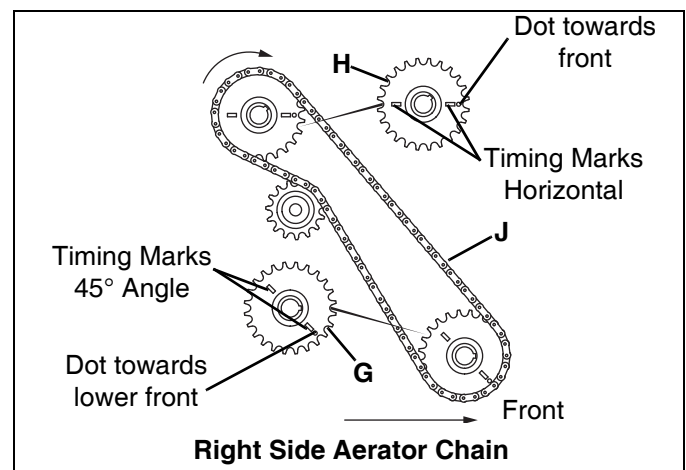
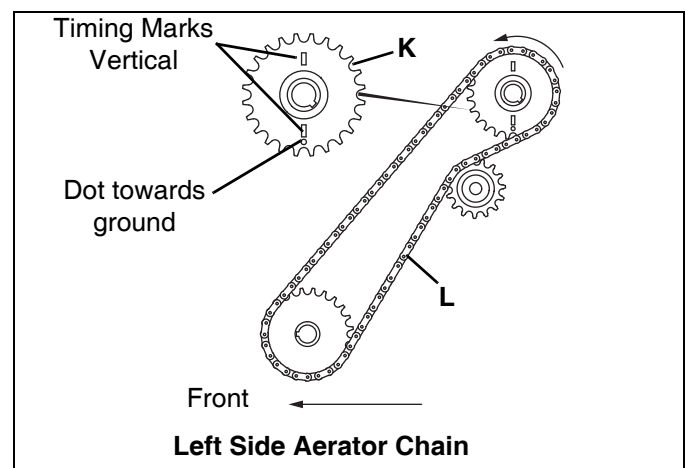

Figure 6D
Figure 6E
4. Rotate right camshaft sprocket (G) until the keyway is pointing towards the front of the unit. Timing marks should be at a 45° angle with dot towards the lower front. [See Figure 6D]
5. Rotate right side crankshaft sprocket (H) until the timing marks are horizontal with the dot towards the front. Keyway should be at a 45° angle.
6. Install right side aerator chain (J). Crankshaft sprocket may be rotated up to 5° in a *clockwise direction only* to properly mesh with the chain.
7. Rotate left crankshaft sprocket (K) until the timing marks are vertical and dot is towards the ground. [See Figure 6E]
8. Install left side aerator chain (L). Crankshaft sprocket may be rotated up to 5° in a *counter-clockwise direction only* to properly mesh with the chain.